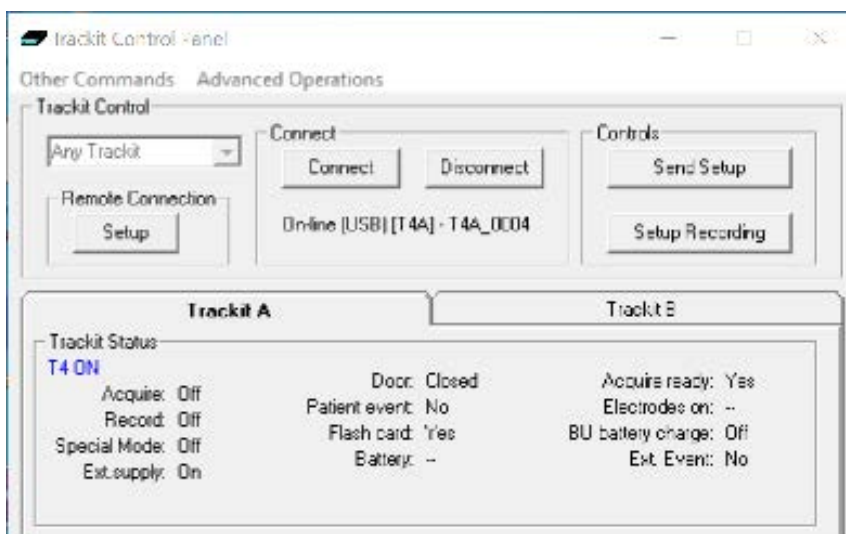

Figure 28: Trackit Control Panel (Amplifier connected)
Further status information is available on the second tab ("Trackit B"). This includes the amplifier's time, Battery capacity, Recording time and the memory card's total and remaining capacity in (Megabytes (MB)) (see Figure 28).